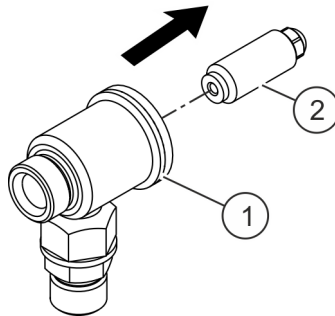

Fig. 20: Unscrew seal screw from the head piece
4. ➔ Unscrew the seal screw (Fig. 20/2) from the head piece (Fig. 20/1).